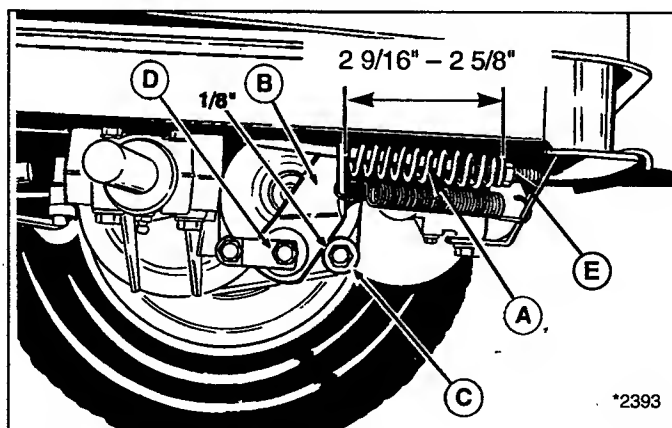

Figure 24. Brake Adjustment (Gear model)
2. Move the brake lever (B) forward. There should be a $1/8"$ gap between the lever (B) and the stop (C) as shown in figure 24.
3. To adjust clearance, turn nut (D) clockwise to decrease the gap or turn nut counterclockwise to increase the gap.
4. Set the parking brake. Loosen or tighten adjustment nut (E) to achieve a $2\ 9/16"$ – $2\ 5/8"$ compressed spring length as shown in figure 24.